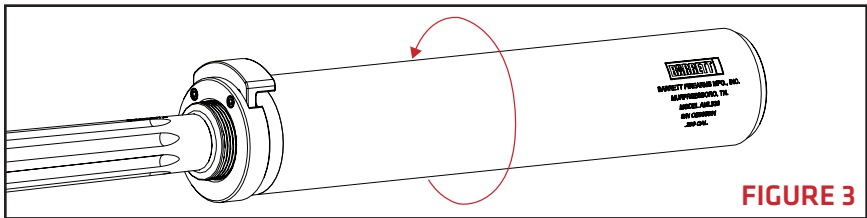

FIGURE 3
5. Once the muzzle brake threads engage the suppressor threads release the secondary locking latch and tighten the suppressor until hand tight (**FIGURE 3**). Do not overtighten.